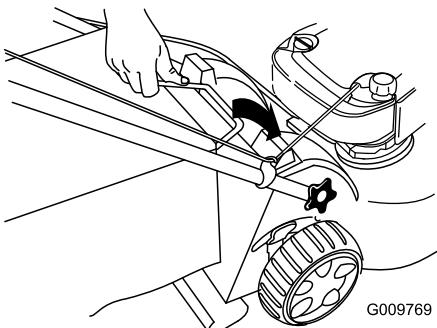

Figure 31
- Insert the grass-bag handle into the grooves at the top of the machine (Figure 31).